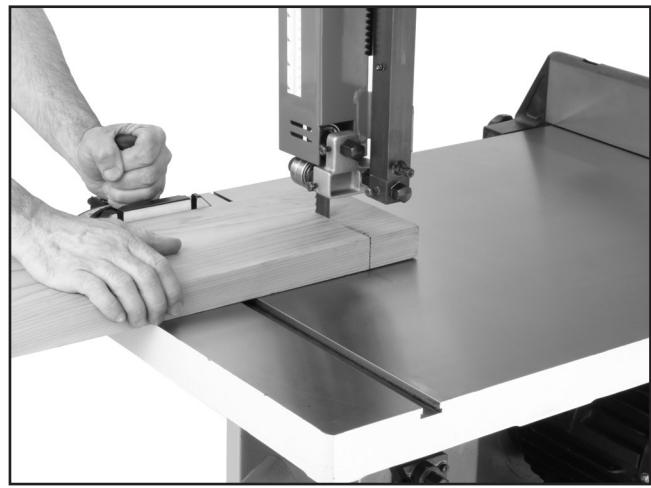

Figure 44. Example of crosscutting operation with miter gauge.
5. After all safety precautions have been met, turn the bandsaw **ON**. Slowly feed the workpiece into the blade and continue the cut until the blade is all the way through the workpiece. **Figure 44** shows a typical cross-cutting operation.